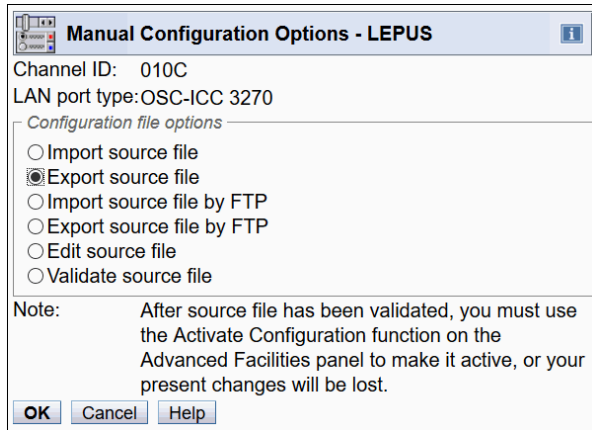

Figure 7-16 Export source file
4. The Manual Configuration Options window opens (see Figure 7-16). Select **Export source file** and click **OK**.